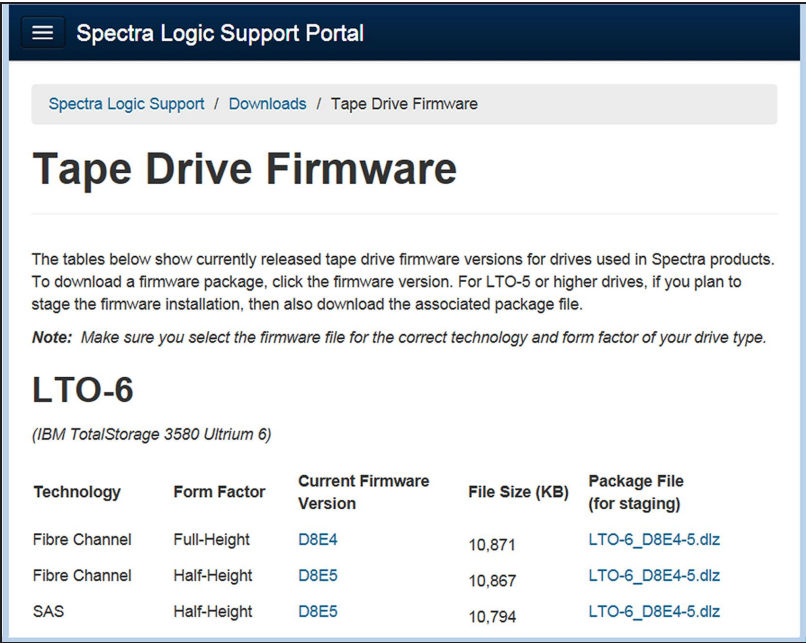

Figure 294 A portion of the Tape Drive Firmware page.
4. On the Tape Drive Firmware page (see Figure 294 on page 510), locate the appropriate drive firmware with respect to drive type (LTO or TS11xx), generation (for example, LTO-5), interface type (for example, SAS or Fibre Channel), and form factor (full-height or half-height).
3. On the Tape Drive Firmware page (see Figure 294 on page 510), locate the appropriate drive firmware with respect to drive type (LTO or TS11xx), generation (for example, LTO-5), interface type (for example, SAS or Fibre Channel), and form factor (full-height or half-height).